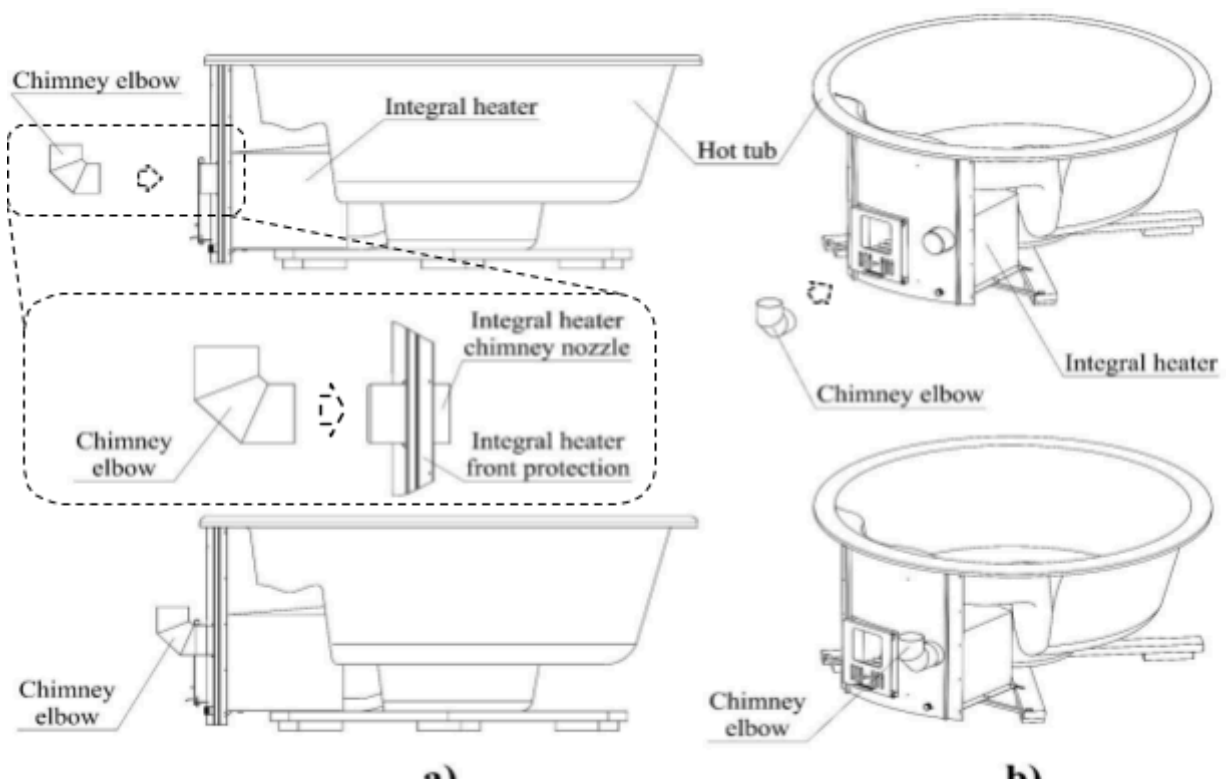

Figure 5. Attachment of the chimney elbow to integral heater (*Assembly step 3*).
- Step 3. Attach the chimney elbow to integral heater (see Fig. 5).